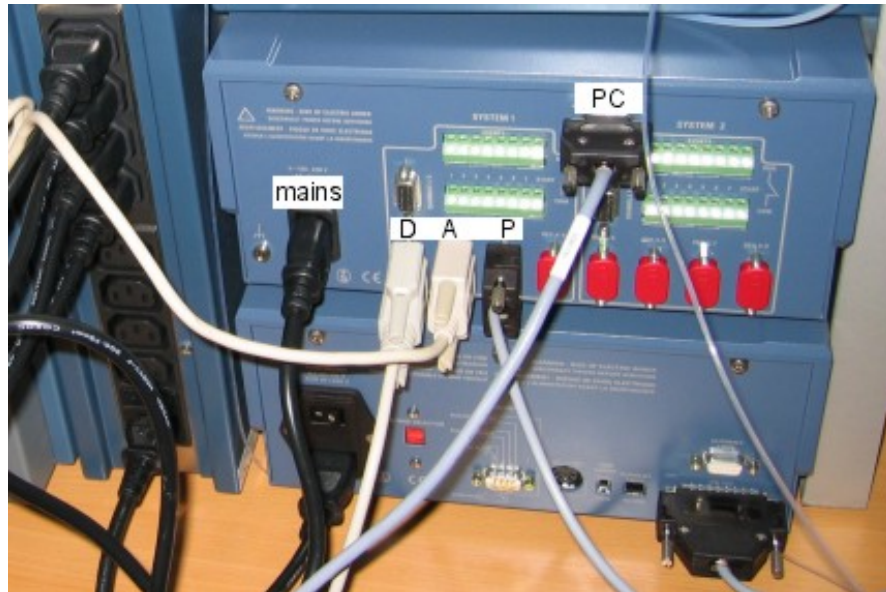

Fig. 2. Rear panel connectors AC 100. D - A - P refers to detector , auto sampler and pump. 'PC' is connection with computer, 'mains' is connected to OR 100.
2. Connect the RS232 cables of detector, autosampler and pump in D - A - P order as shown in Fig. 2.
3. Connect PC RS232 cable as shown in Fig. 2.